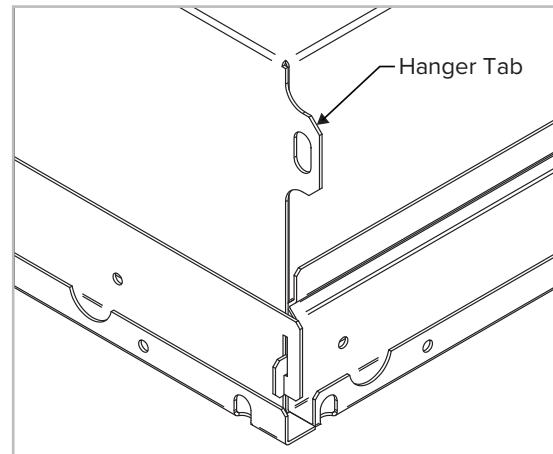

Figure 1: Hanger Tab
3. Locate the hanger support tab at each corner of the luminaire housing as shown in *Figure 1*. Use a hanger wire at all four corners to tie the luminaire to the building structure above. Use 12 gauge minimum hanger wire rated for such application. In addition, follow local building codes regarding required additional support of luminaires.